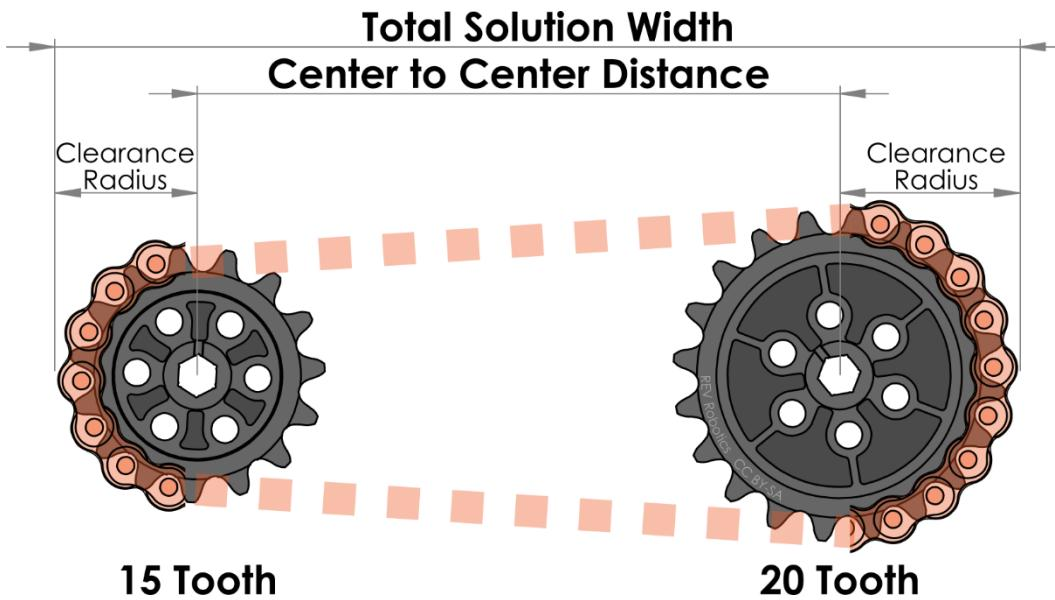

Figure 18: Relationship between Center to Center Distance and Clearance Width
Since the solution must fit within a five inch space the chain clearance radius around both sprockets must be accounted for, in addition to their center to center distance. Use Table 2: Sprocket Measurement Details, to look up the chain clearance diameter (A) for both the 15 tooth and 20 tooth sprockets and subtract the radius of each from the total given solution size to get the maximum center to center distance available (Figure 18).